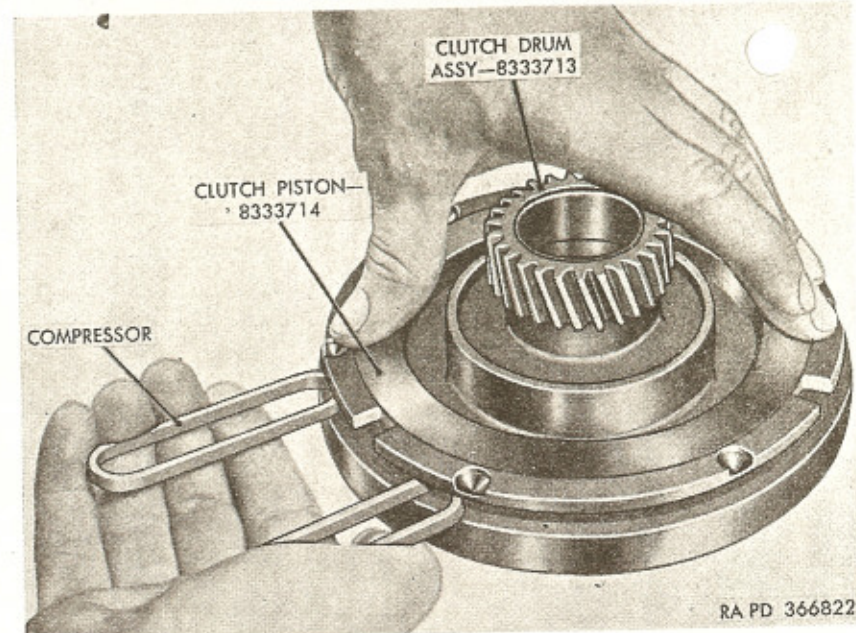

Figure 113. Installing clutch piston large oil seal ring using compressor—A8708710.
h. Install clutch piston large selective size oil seal ring (H) (table VI, par. 98) in outer groove of clutch piston. Refer to figure 113.
i. Place clutch piston oil seal ring compressor—A8708710 over oil seal ring in piston; then compress oil seal ring and at same time push piston down into drum, until it bottoms against compressor (fig. 113). Remove compressor by spreading compressor ends. Press clutch piston completely into drum.
j. With gear end of clutch drum assembly (J) down, install clutch drum and piston assembly over front planet carrier and into front drum assembly, engaging release springs in pockets of clutch piston.
i. Place compressor—A8708710 (fig. 113) over oil seal ring in piston; then with clutch drum seated on bench with hub up, compress oil seal ring with compressor and push piston down until it bottoms against compressor. Remove compressor by spreading compressor ends. Press clutch piston completely into clutch drum.
j. Install rear clutch drum assembly (B) and clutch piston over drive pins and into rear unit drum assembly.